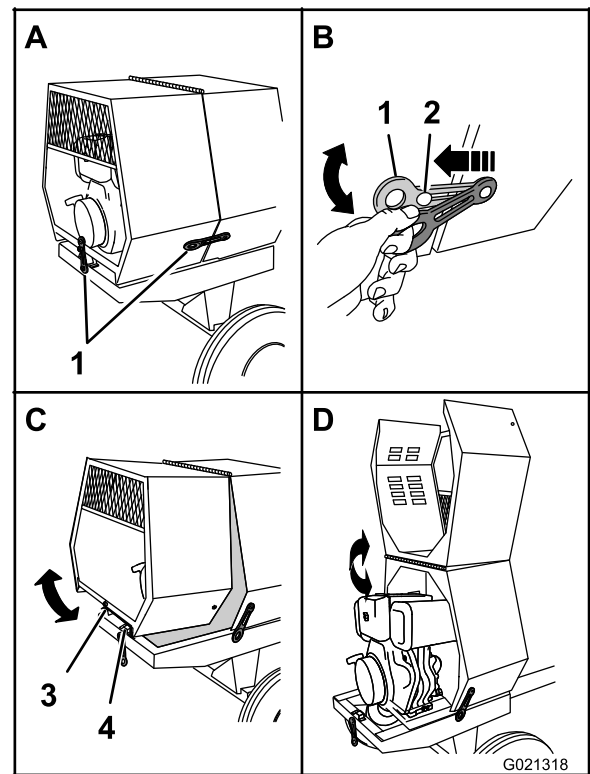

Figure 20
1. At the side of the machine where the front cowl and rear cowl meet, grasp the ring of the latch and pull it off from the latch anchor on the rear cowl (Figure 20).
3. At the back of the machine where the rear cowl meets the frame of the machine, grasp the ring of the latch and pull it off from the latch anchor on the cowl (Figure 20).
4. Rotate the rear cowl up and forward until it is fully positioned on top of the front cowl (Figure 20).
1. Rotate the rear cowl rearward and down until the receiver at the bottom center of the cowl is aligned with the V-fitting and flush on the frame of the machine (Figure 20).
4. Repeat step 3 on the opposite side of the machine (Figure 20).